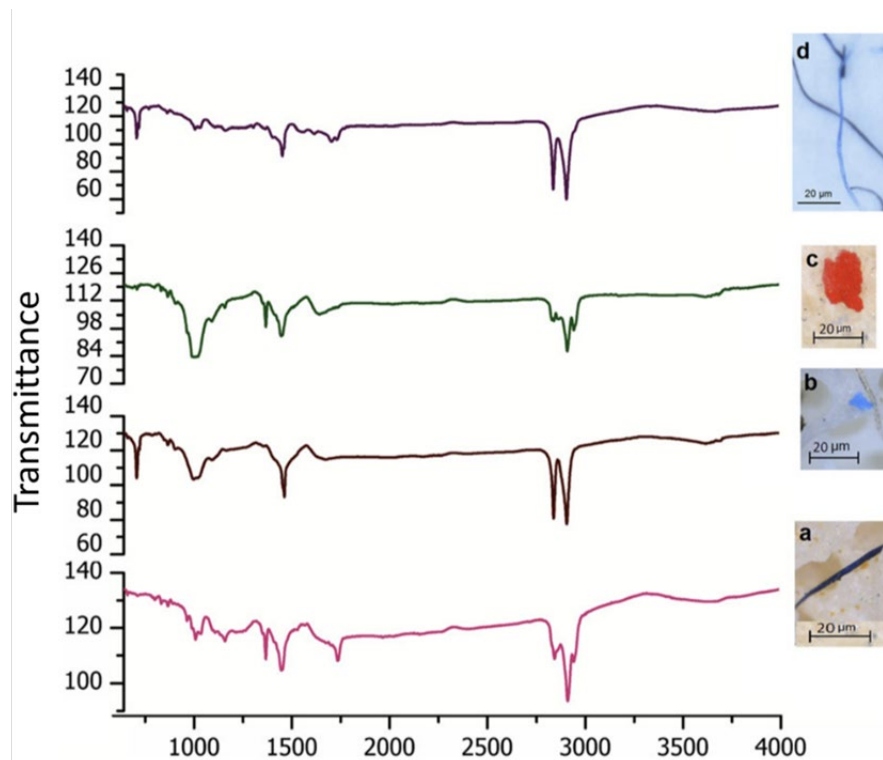

Figure 5 FTIR spectra of several microplastics.
- (b). Microplastics are plastic particles smaller than 5 mm that can originate from various sources, including industrial processes and household items. These plastic particles enter the environment through human activities. Common types of microplastics include polyethylene, polypropylene, polyester, and polyamide (or nylon). The FTIR spectra of these microplastics are shown in Fig. 5. Based on the functional groups, identify the appropriate FTIR spectrum for each type of microplastic and explain your justifications.